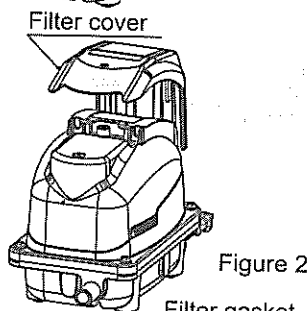

Figure 2
③ Remove the filter cover. (Figure 2) Hold both ends and pull upward.